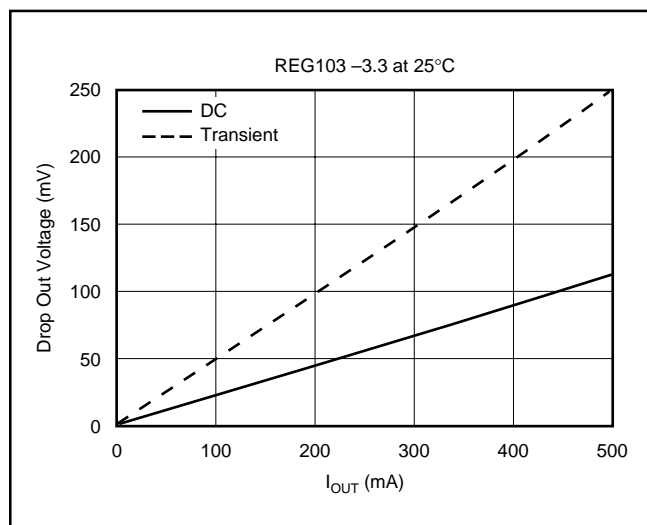

FIGURE 8. Transient and DC Dropout.
The REG104 uses an N-channel DMOS as the “pass” element. When the input voltage is within a few hundred millivolts of the output voltage, the DMOS device behaves like a resistor. Therefore, for low values of  $V_{IN}$  to  $V_{OUT}$ , the regulator’s input-to-output resistance is the  $R_{DS(ON)}$  of the DMOS pass element (typically 230mΩ). For static (DC) loads, the REG104 will typically maintain regulation down to  $V_{IN}$  to  $V_{OUT}$  voltage drop of 230mV at full rated output current. In Figure 8, the bottom line (DC dropout) shows the minimum  $V_{IN}$  to  $V_{OUT}$  voltage drop required to prevent dropout under DC load conditions.
For large step changes in load current, the REG104 requires a larger voltage drop across it to avoid degraded transient response. The boundary of this “transient dropout” region is shown as the top line in Figure 8. Values of  $V_{IN}$  to  $V_{OUT}$  voltage drop above this line insure normal transient response.